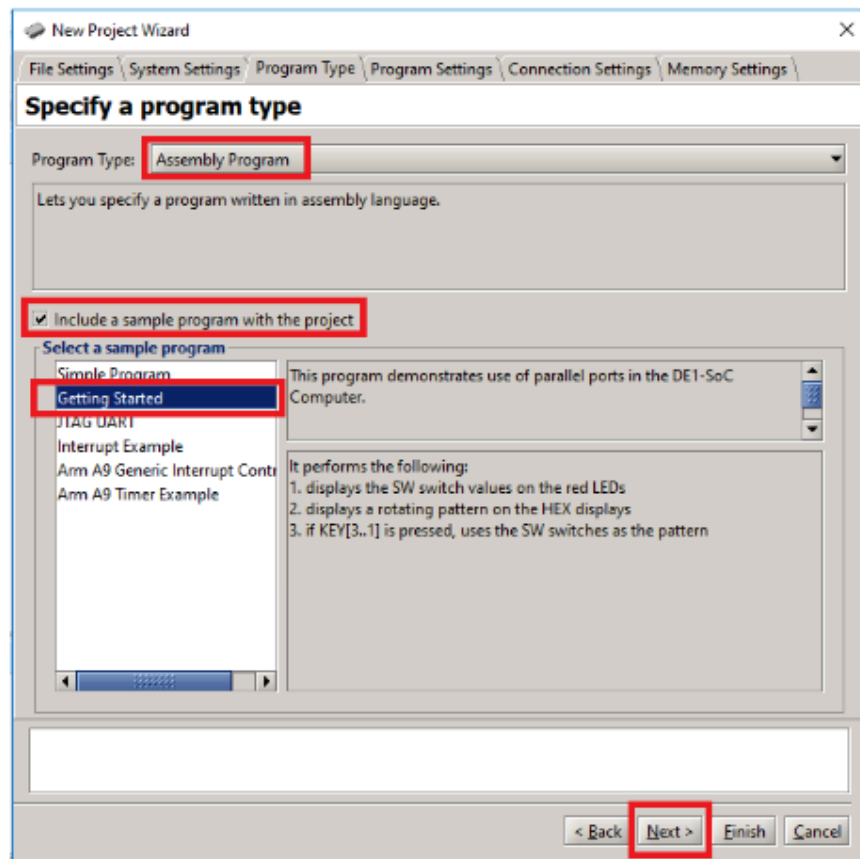

Figure 15: Running the demo program - Step 4
4. In the next window, under “Program type” select the “Assembly Program” and check the box marked “Include a sample program with this project”. Then in the same program menu select “Getting Started” and click “Next”, Fig. 15.